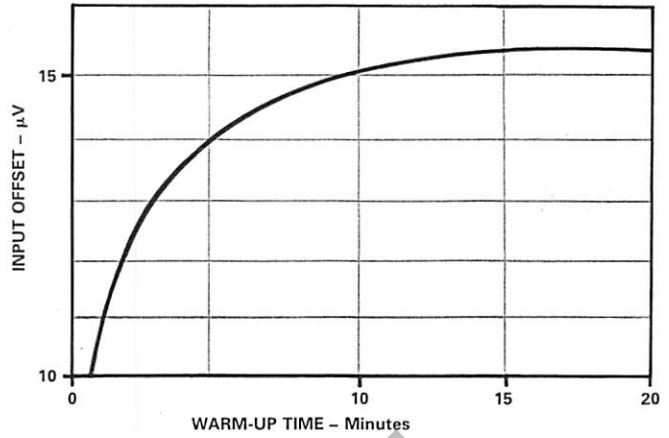

Figure 11. Offset Voltage RTI, Turn-On Drift
**Turn-On Drift:** The 1B32 offset voltage typically stabilizes to within 1µV of its final value in 10 minutes (Figure 11). The test conditions are: 350Ω bridge with a +10V excitation and ambient temperature of +25°C.